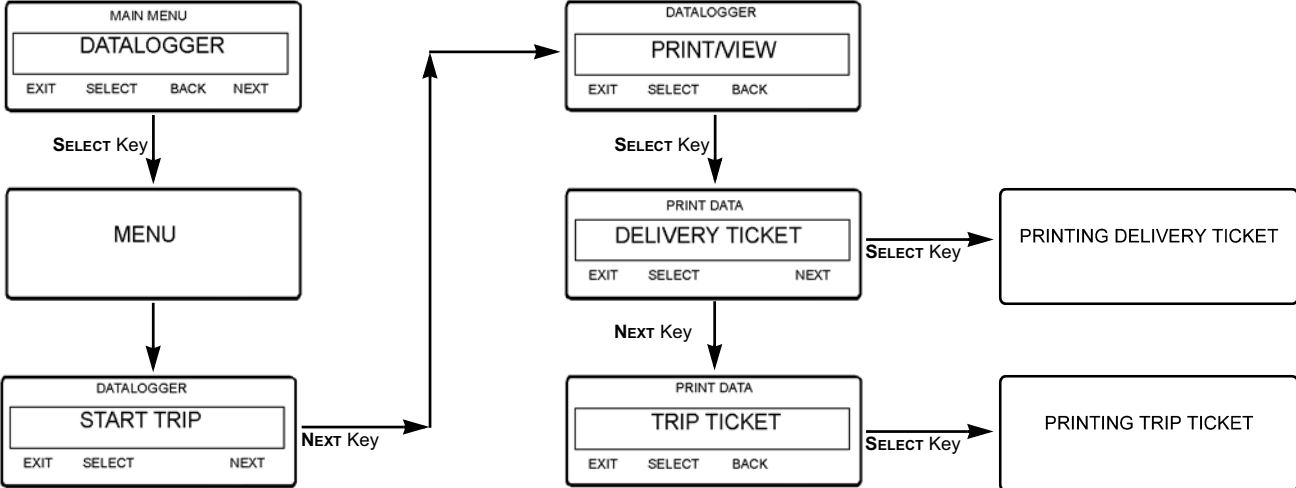

Figure 70: Print Report Screen Sequence
4. Press the **NEXT** soft key until the Datalogger Menu appears. See Figure 70.